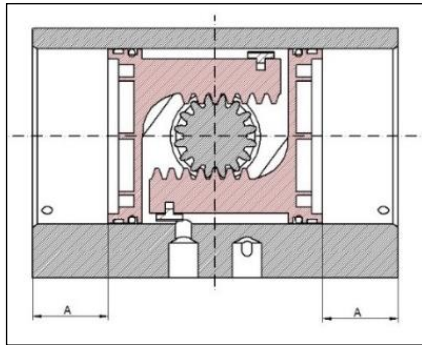

Fig No.29
- d) To ensure that the piston (03) teeth are evenly engaged, fully compress both the pistons inward and measure the distance from the edge of the body to the piston (03) face on each side, shown as dimension 'A' in fig No.29 If a different value is obtained on each side, remove the pistons and repeat from step 4.4 C).